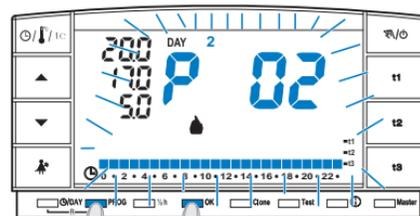

fig. 8
- Press the **PROG** key to enter into program display, press the   keys (or else quickly press PROG) until the display shows the program number you want to select. Programs **P 02 (winter)** and **P 03 (summer)**, as per their factory setting, have all the digits on the 24h scale related to t3 temperature (Absence), example in fig. 8.